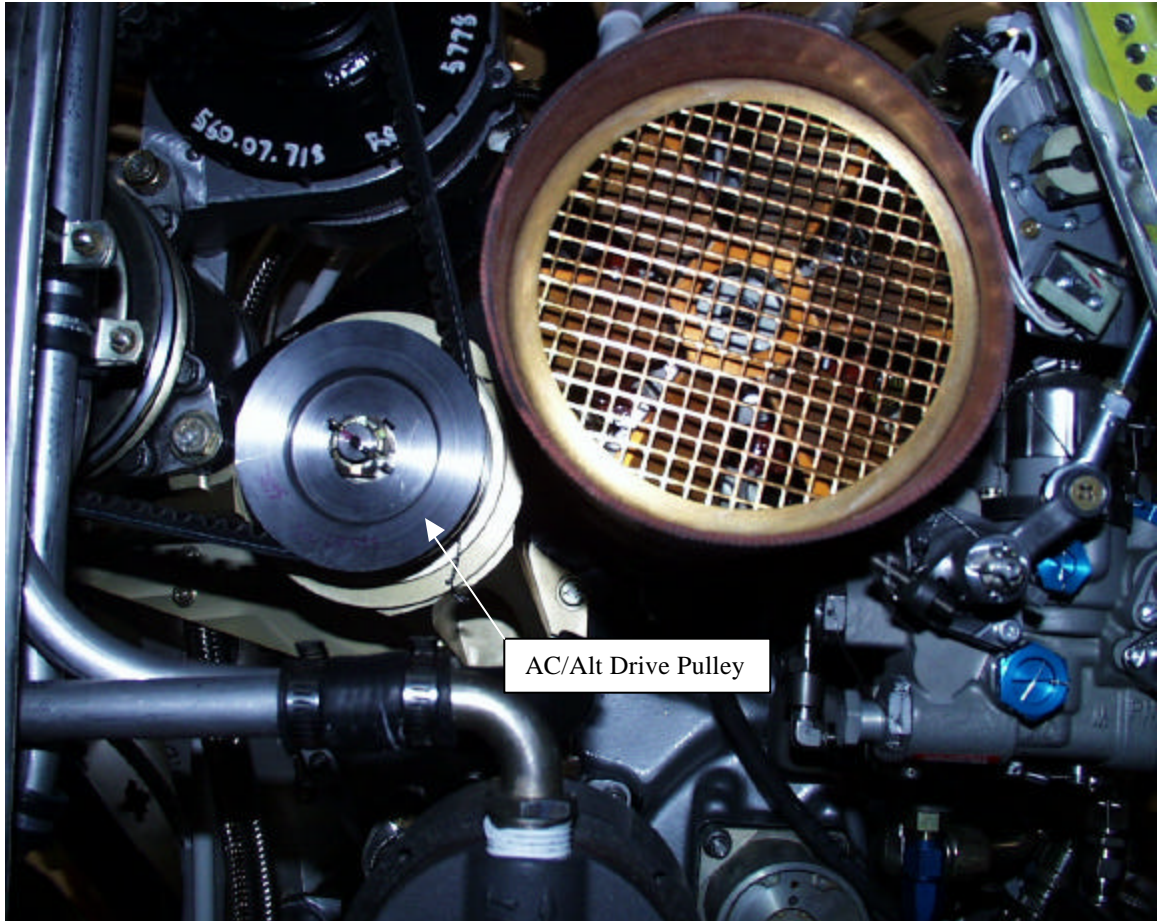

Figure 1. Engine as Viewed Through the Generator Access Panel
3. Remove the generator access panel to gain easy access to the AC/Alt Drive Assembly. See Figure 1.